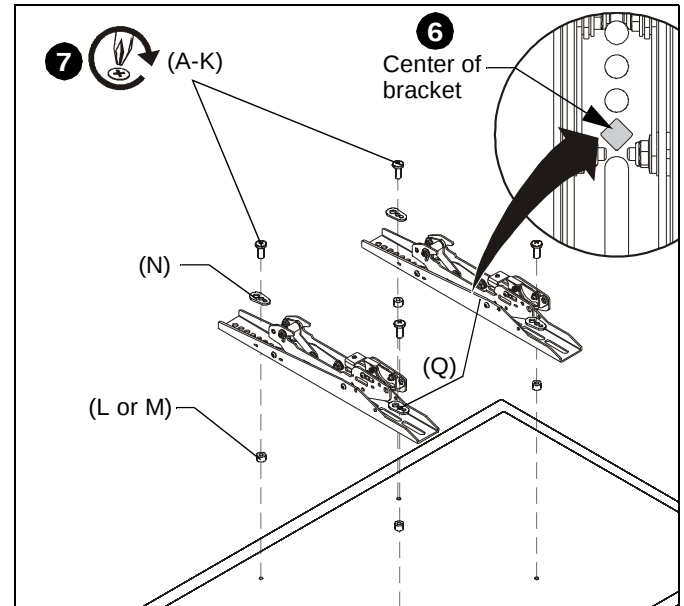

Figure 10
3. Select screw *diameter* by examining hardware (A-K) and comparing with mounting holes on display. (See Figure 10)
- Spacers are **NOT** required if mounting holes are not recessed and interface brackets (Q) can lay flat against display.
- Spacers (L or M) **ARE** required if mounting holes are recessed, or if protrusions prevent interface brackets (Q) from laying flat.
5. Select screw *length*: (See Figure 10)
- By hand, insert **SHORTEST** length screw of selected diameter (A, D, G or I) through universal washer (N - if required), bracket (Q), selected spacer (L or M-if required), into display mounting hole. Do NOT thread screw into hole at this time.
6. Align the center of the interface brackets (Q) with center of screen. (See Figure 10)
7. Use selected screws (A-K), universal washers (N-if required) and spacers (L or M-if required), to connect interface brackets (Q) to back of display. (See Figure 10)